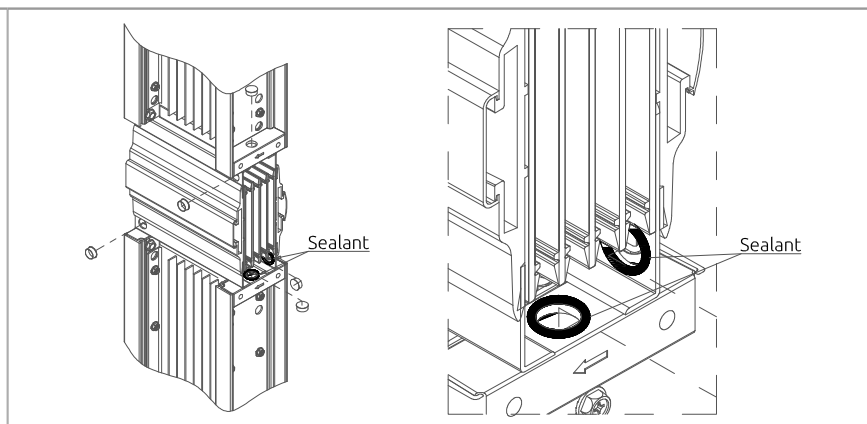

Figure 11.2
2. Remove all hole plug from end block and alu 'S', apply sealant around all the hole (See Figure 11.2)
3. Plug the hole plug as per Figure 11.2 into inner side of busway joint except the top side of end block.